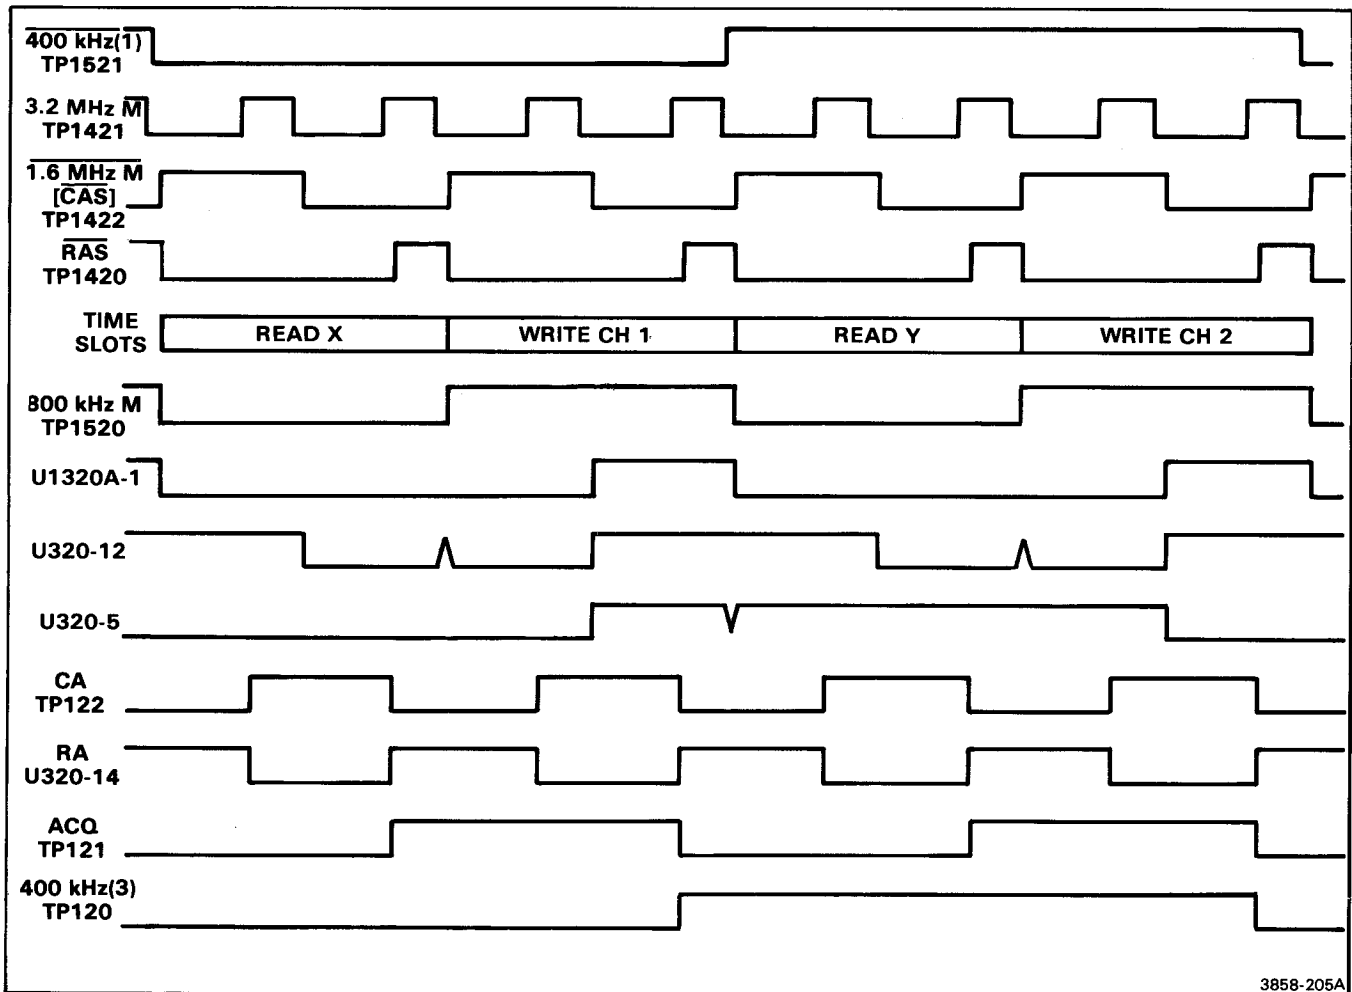

Figure 2-15. Memory timing signals.
The WFM completes one read/write cycle every 2.5 μ s for a rate of 400 kHz. Each read/write cycle is divided into four time slots (see Fig. 2-15): READ X, WRITE CH 1, READ Y and WRITE CH 2. During the READ X time slot, a byte of data is read from the WFM to be displayed on the X-axis of the mainframe crt; during the READ Y time slot, a Y-axis data point is read. Note that although X-axis data are always read, it is used only when displaying waveforms in the X-Y mode.
The $\overline{3.2\text{MHz}}$, $\overline{1.6\text{MHz}}$, $\overline{800\text{kHz}}$ and $\overline{400\text{kHz}(1)}$ signals from the Time Base board supply the basic timing information for the Memory circuitry (see Fig. 2-15). The $\overline{3.2\text{MHz}}$ and $\overline{1.6\text{MHz}}$ signals are applied to inverter U1520E, inverter U1420D and gate U1320D to create the $\overline{3.2\text{MHzM}}$, $\overline{1.6\text{MHzM}}$ and row address select ($\overline{\text{RAS}}$) signals.
Quad D-Type flip-flop U320 gates these signals through flip-flop sections 2, 3 and 4 to create additional special purpose timing signals: CA, RA, ACQ and 400kHz(3). Figure 2-15 shows the input and output timing relationship of these signals.
A positive-going edge on the pin 14 clock input to each counter device clocks the device one count. Two clock modes are provided: continuous and single step. In the continuous mode, the 400kHz(3) clock signal clocks the counters once every 2.5 μs , just before the beginning of the READ X time slot (see Fig. 2-15). In the single step mode, the display address generator singlestep enable ($\overline{\text{DAGSSE}}$) line is pulled low, which blocks the 400kHz(3) clock from being applied to the counter devices. The display address generator single step (DAGSS) line then controls the clock inputs to the counter devices, allowing the microprocessor to single-step the counters.